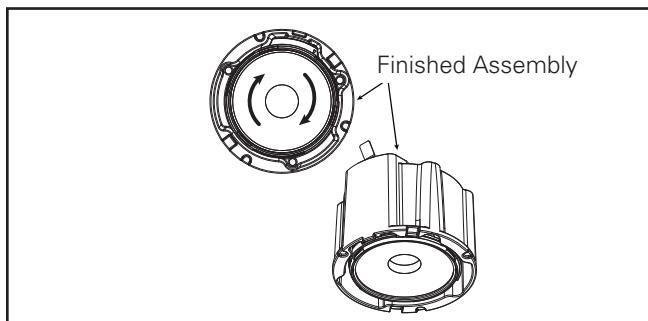
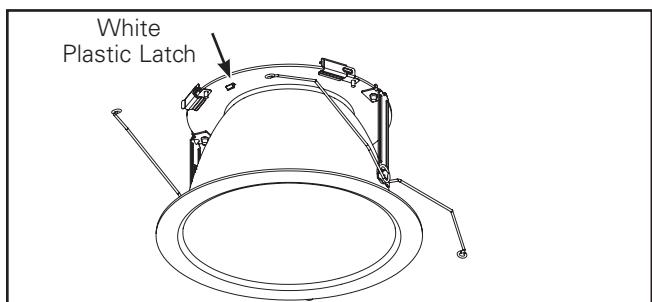
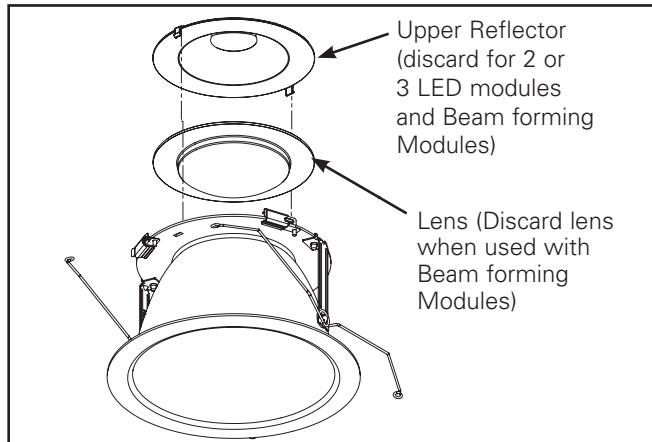

Figure 16
Figure 25
Figure 26
5. If the LED modules has 2 or 3 LEDs, gently remove the upper reflector by disengaging the white plastic latches (Figure 25 & Figure 26) and discard it. Retain the upper reflector on the trim for 1LED modules.
6. If the LED modules has Beam Forming optic, (Figure 16) gently remove the upper reflector and lens by disengaging the white plastic latches (Figure 25 & Figure 26) and discard them.
4. Fasten optic assembly with LED Light Engine by gently twisting clockwise until it stops. (Figure 16) Ensure the optic is secured in place.
1. Press in on white plastic latch to remove upper reflector and clean lens. (Figure 25 & 26)